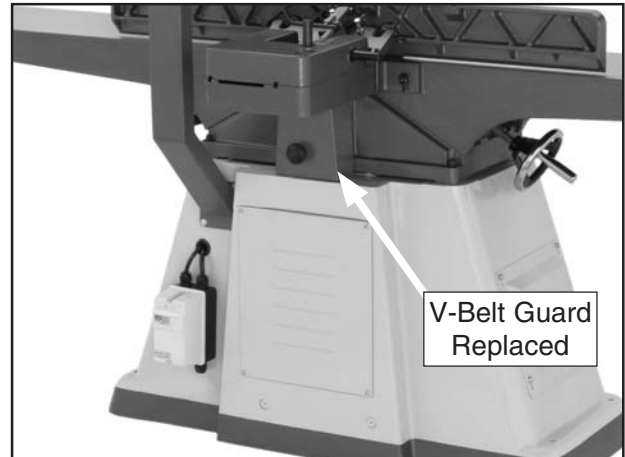

Figure 40. V-belt guard replaced.
5. Replace the access cover and V-belt guard on the jointer (**Figure 40**).